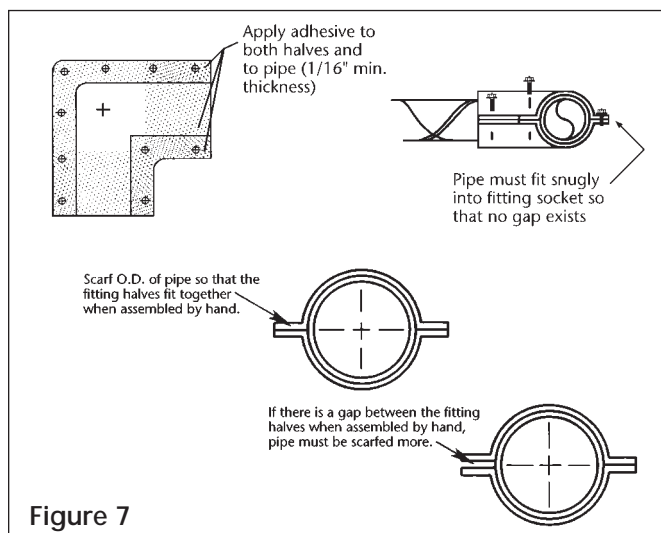

Figure 7
**Note: Check the set up of the scarfing tools with a two-piece fitting on a regular basis. The containment fitting must be free to close around the pipe, and the flange (flat) areas of the containment fitting must fit together tightly on both sides (see Fig. 7).**